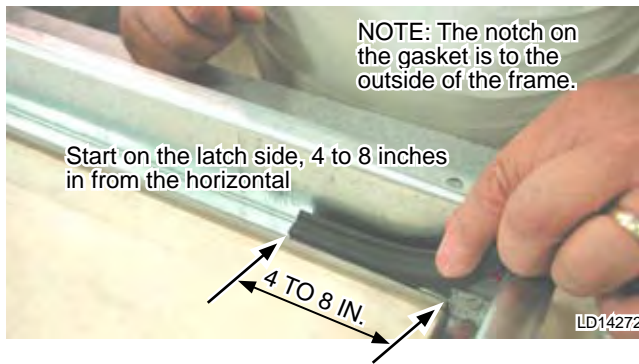

FIG. 5-68 – PLACE GASKET ON LATCH SIDE OF FRAME
2. Starting on the latch side, 4 to 8 inches in from the horizontal, place the sticky side of the gasket down onto the gasket leg (see Fig. 5-68).